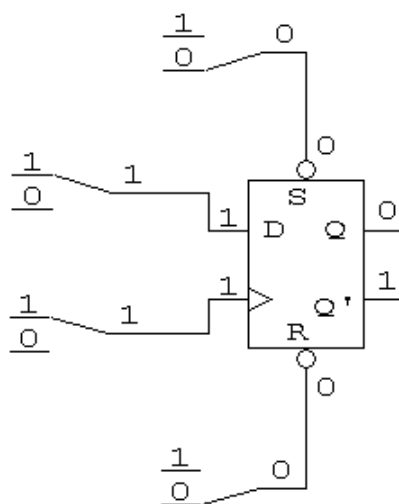

Figure 5. D Flip-Flop
- SimUaid requires that a signal be connected to every flip-flop input **including the preset and clear (S and R) inputs**. Connect switches to the flip-flop inputs and outputs as shown in Figure 5.